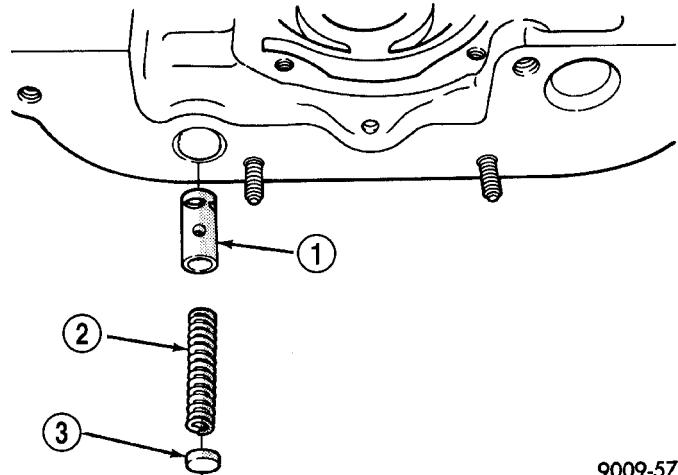

Fig. 104 Oil Pressure Relief Valve
(1) Remove oil pan (Refer to 9 - ENGINE/LUBRICATION/OIL PAN - REMOVAL).
(2) Drill a 3.175 mm (1/8 in.) hole in the center of the retainer cap (Fig. 104). Insert a self-threading sheet metal screw into the cap.
(3) Using suitable pliers, remove cap and discard.
(4) Remove spring and relief valve (Fig. 104).